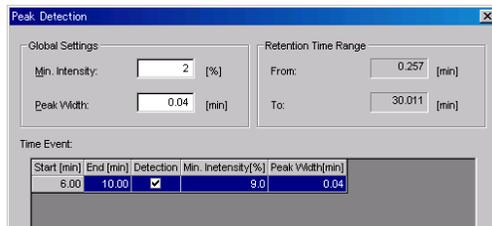
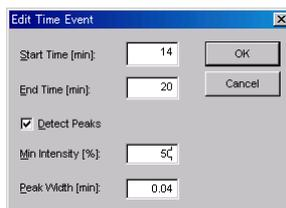
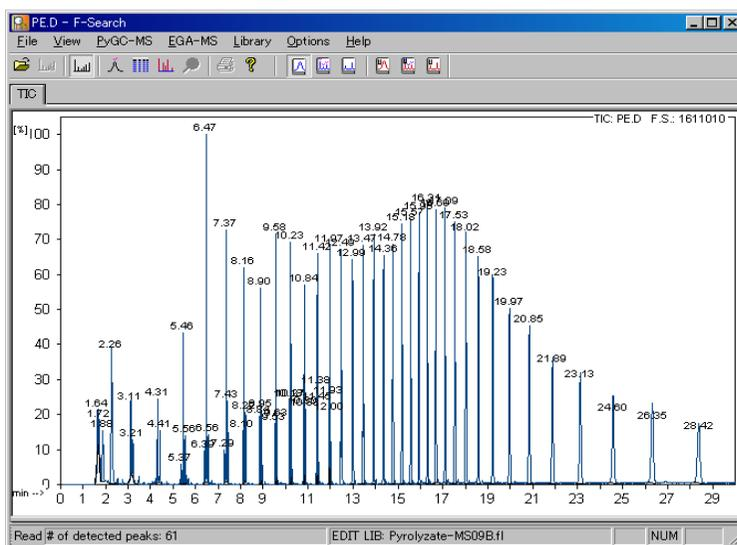

Fig. 5-20 Setting peak detection parameters
Fig. 5-21 Setting peak detection parameters for a specific time interval.
Fig. 5-22 Peak Detection
As shown in Fig. 5-22, (1) the retention time can be added at the top of each peak in the
- (1) Open the mass spectral data file of interest.
- (2) Select a library file. Normally PyGC-MS14B.fl is selected.
- (3) Select [PyGC-MS] - [Detect Peaks] from the menu. The dialog box shown in Fig. 5-20 will be displayed. Enter the appropriate values for detecting each peak. In the case of a pyrogram obtained under standard Py-GC conditions, the default values are 2 [%] for intensity and 0.04 [min] for half-height peak width. Adjusting these values may be required for optimal peak integration. As shown in Fig. 5-21, clicking the [Add] button will display a dialog box where peak detection parameters are entered. This will override the settings previously entered - see Fig. 5-22. Customized peak integration parameters can be saved by selecting [Save]. To load a file, click [Load] then specify the file.
Clicking [OK] initiates the peak detection process and the results are displayed, as shown in Fig. 5-22. Peaks with a retention time are 'detected' peaks.